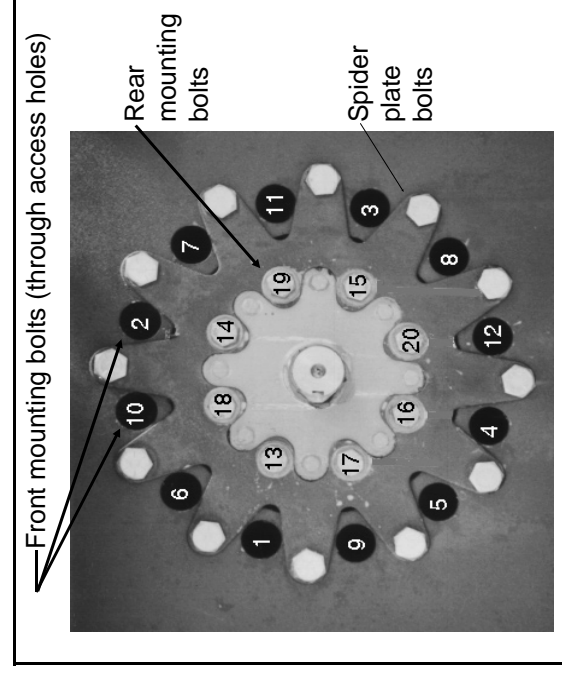

FIGURE 4 (MSSM0230AE)
2. Thoroughly clean bearing housing seating surfaces on the inside of the shell and on the spider plate (FIGURE 4). Determine that the seating surfaces on the bearing housing are dry and free from any dirt.
5. Install washers onto the mounting bolts and apply Loctite 242 thread compound (or equivalent) on all bolts and tighten to the specifications below (follow the tightening sequence shown in FIGURE 4):